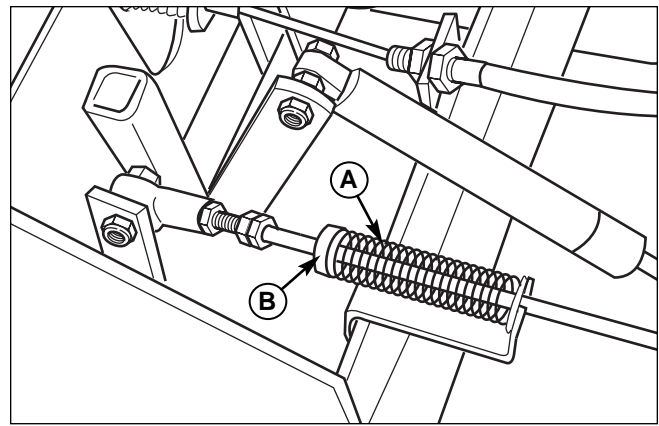

Figure 33. Return to Neutral Adjustment
1. Loosen the set collar (B, Figure 33) locked against the return spring (A).